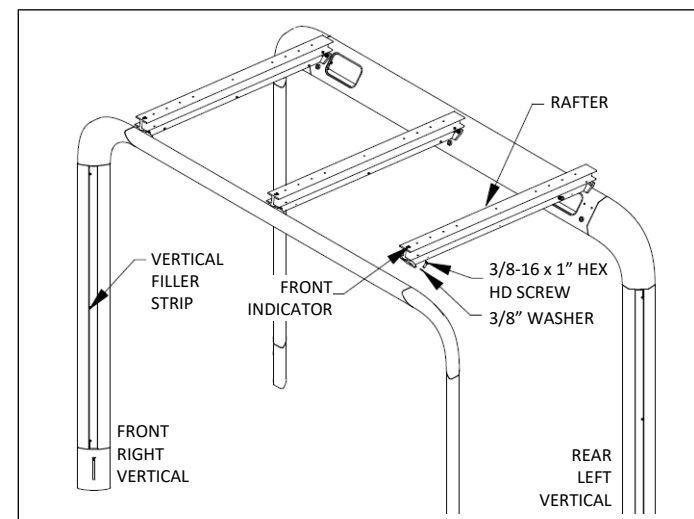

Fig. C3 – assemble horizontal beam to verticals
7. Install rafters using 3/8" washers and hex head screws, see Fig. C3. Front of rafter is indicated on part, see Fig. C3. Hand tighten.
9. If shelter does not have any wall panels, the vertical filler strips should be installed. The front filler strips are taller than the rear strips. Install each one with (3) 1/4-20 x 1/2" socket head cap screws, see Fig. C3.